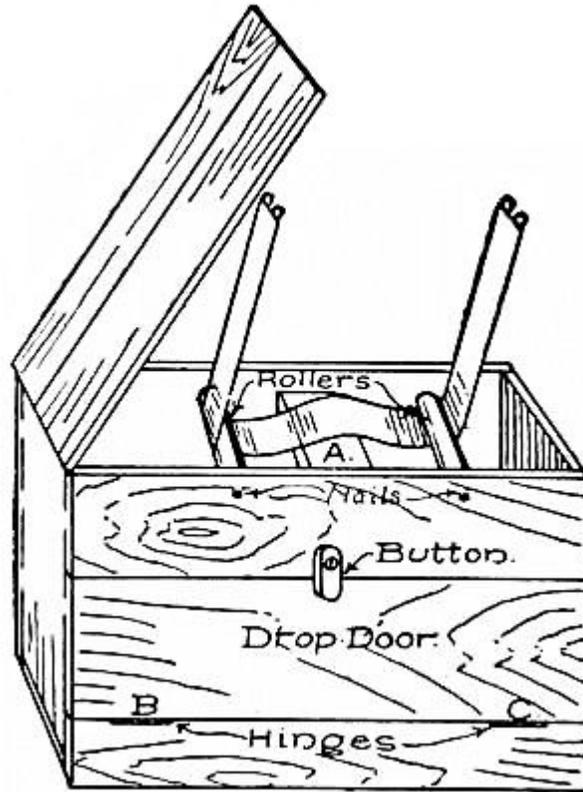

FIG. 61.—A Blacking-case.
**A Blacking-case** made similar to Fig. 61 is a handy article for a boy to have in his room. As the friction from a rag rubbed over the shoe produces a finer polish than a brush when polishing paste is used, the box is provided with an arrangement by which a rag can be rubbed over the shoe without much effort (see illustration).